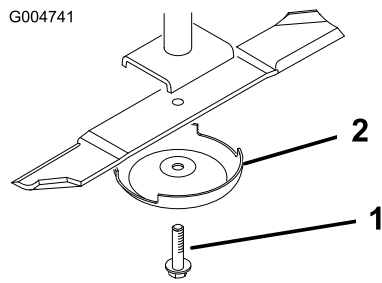

Figure 91
- Grasp the end of the blade using a rag or thickly padded glove. Remove the blade bolt, anti-scalp cup, and blade from the spindle shaft (Figure 91).